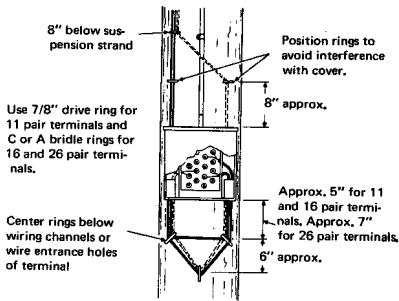

FIGURE 4. Retrouting Drop Wire Below Terminal
- 4.05 When the necessary slack cannot be obtained by routing the drop wires as described in paragraph 4.04, splice out the drop wire in the vertical run above the terminal and run the wire through all three rings below the terminal (see Figure 4).